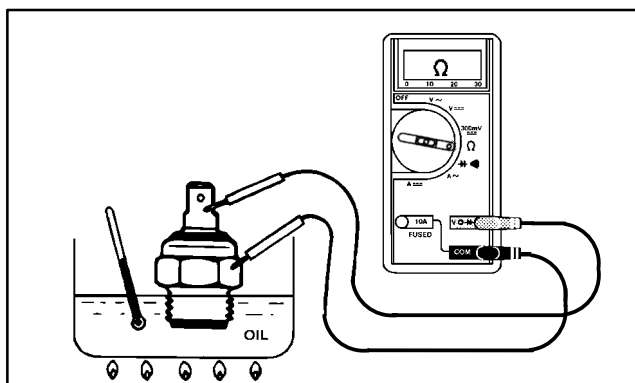

Figure 16
2. Put the end of the switch in a container of oil with a thermometer and slowly heat the oil (Fig. 16).